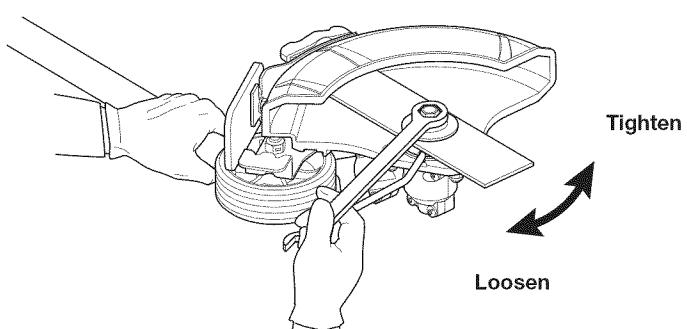

Fig. 9
3. While holding the locking rod, loosen the lock nut by turning it **clockwise** with a 13 mm wrench (Fig. 9).
8. While holding the locking rod, tighten the lock nut by turning it **councclockwise** (Fig. 9). Make sure that the edger blade stays flat and centered against the output shaft while tightening the lock nut.